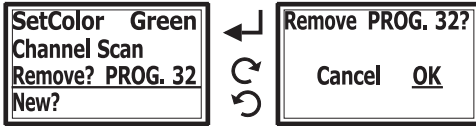

Fig. 22
- (1) Icon "T+" displays current working transmitter.
- (2) Icon "T|" displays channel occupied by other MIPRO working transmitter.
- (3) Icon "█" displays a severe interference channel.
- (4) Icon "■" displays a lesser interference channel.
- (5) Icon "10" indicates the current selected channel.
(N) Remove ? function, Fig. 22: